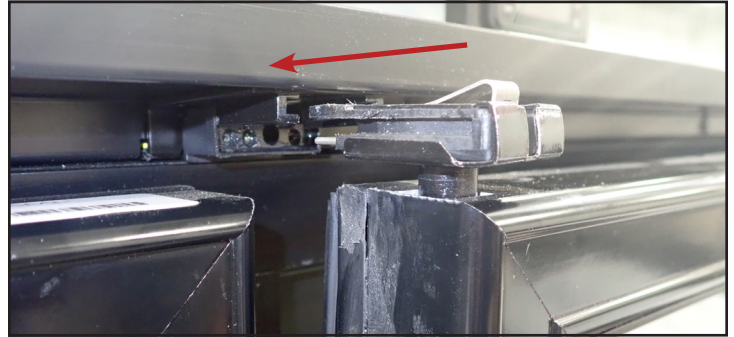

Fig. 9. Align the hinge pin.
3. Align the hinge pin (see fig. 9). Then, push the door's top towards the appliance until the hinge pin clicks into place.